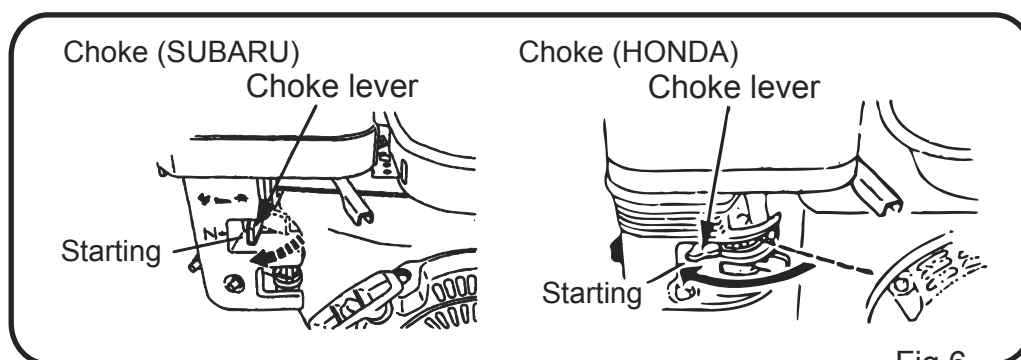

Fig.6
- 8-1-4 When it is cold or the engine does not start easily, close the choke lever. (Fig. 6)